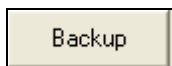

Figure 31.1.6
- Once you have made the appropriate choices click on the **Backup** button (Figure 31.1.6).